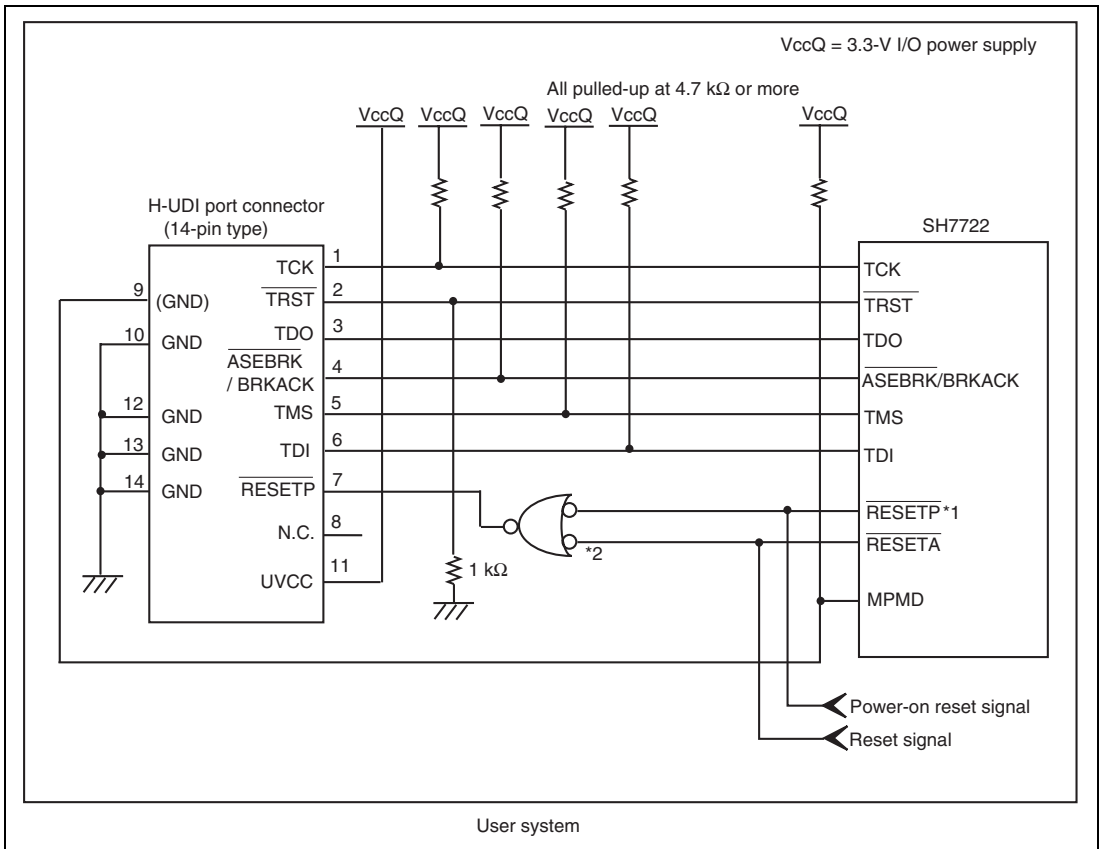

Figure 1.4 Recommended Circuit for Connection between the H-UDI Port Connector and MPU when the Emulator is in Use (14-Pin Type)
5. Connect /RESETP and /RESETA to the user system if required, as shown in figure 1.4.
Figure 1.4 shows a recommended circuit for connection between the H-UDI port connector (14 pins) and the MPU when the emulator is in use.
- (1) When the emulator is used: $MPMD = 0$
- (2) When the emulator is not used: $MPMD = 1$Figure 1.4 shows an example of circuits that allow the MPMD pin to be GND (0) whenever the emulator is connected by using the user system interface cable.
7. The resistance values shown in figure 1.4 are for reference.
When the circuit is connected as shown in figure 1.4, the switches of the emulator are set as SW2 = 1 and SW3 = 1. For details, refer to section 3.8, Setting the DIP Switches, in the SuperH™ Family E10A-USB Emulator User's Manual.